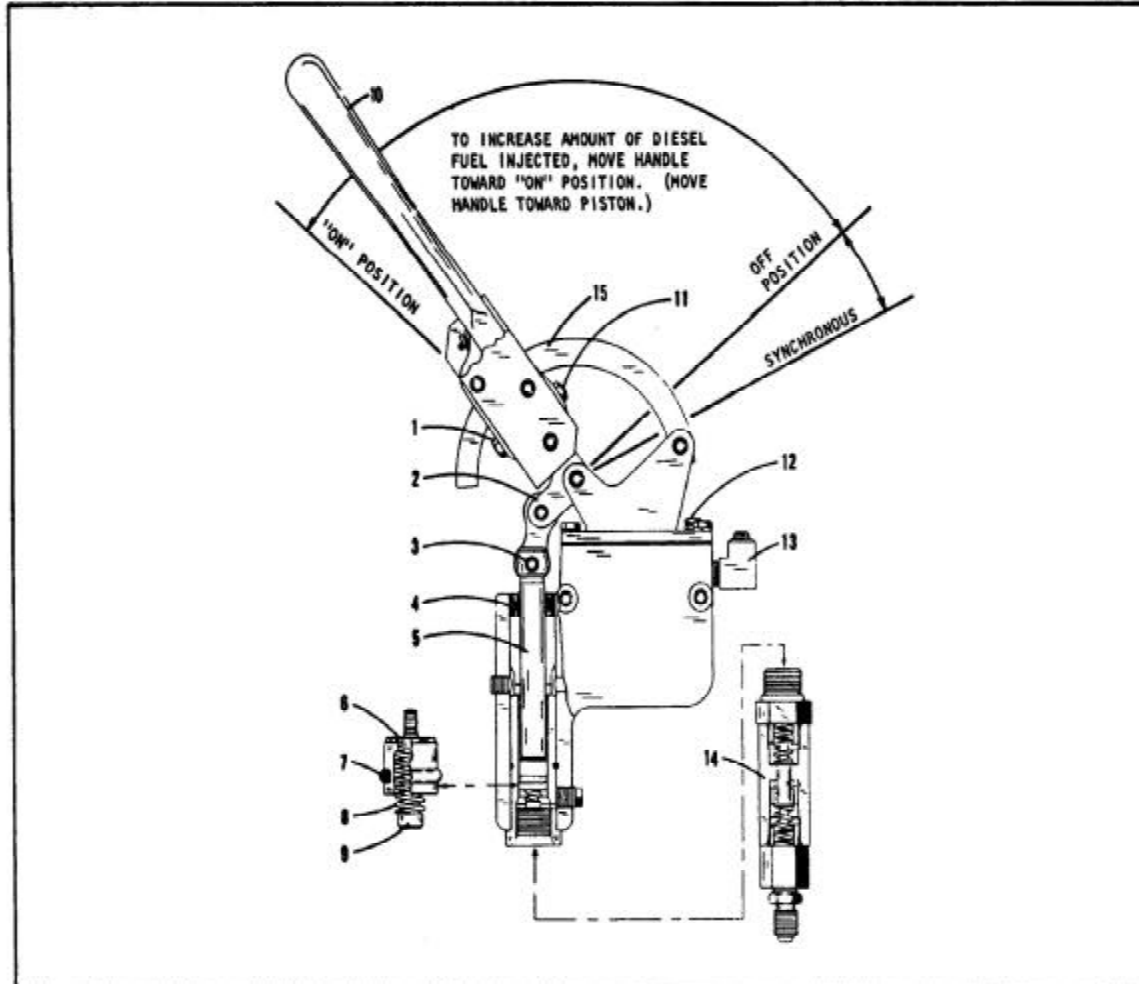

Fig. 7-2
The transmitter serves as a reservoir for storage of hydraulic fluid and incorporates a piston assembly which meters hydraulic fluid to actuate the fuel pump rack through a receiver, or "slave cylinder", mounted on the Hammer. Operating fluid in the system is variable controlled by the friction type hand lever, which is connected with the piston assembly, Fig. 7-2. The transmitter assures a wide range of control of
(a) Back off set screw (1), Fig. 7-2, 1/4" from link.
- (b) Turn set screw (11), Fig. 7-2, in until hand (10) does not lock when moved to the "on" position. Then back off on set screw (11) until handle does just lock when moved to the "on" position.
- (c) With handle (10) in the "on" position, turn set screw (1) Fig. 7-2, until it contacts link. Then back off on set screw (1) 1-1/2 to 2 turns.
The function of the double relief valve Fig. 7-2 is to keep the control hose full of oil. No adjustment of the relief valve is provided. The preloaded head of oil in the system is maintained by springs in the relief valve. The double relief valve will maintain approximately 45 lbs. of value in either the "off" or "synchronous" position to permit operation of receiver higher than transmitter.
- (b) Loosen breather cap, Fig. 7-2 located on top of transmitter. (Breather cap must loosen before operating and be left open during operation.) With transmitter lever in "full on" position, fill reservoir through elbow fitting located on side of transmitter, until oil is visible at top of fitting.